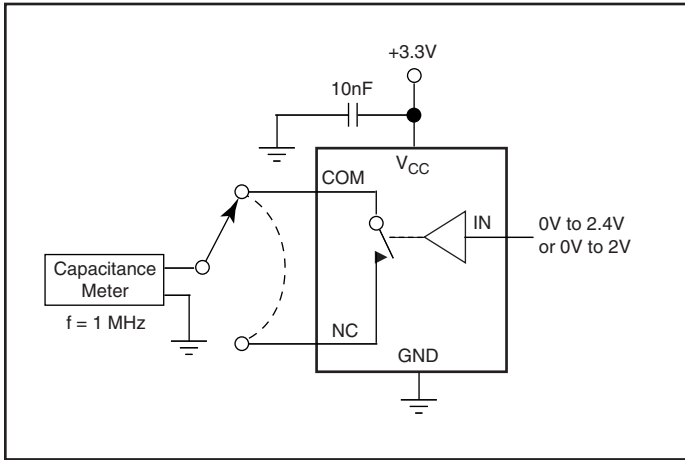

Figure 5. Channel-Off Capacitance
- Between any two switches. See Figure 5.